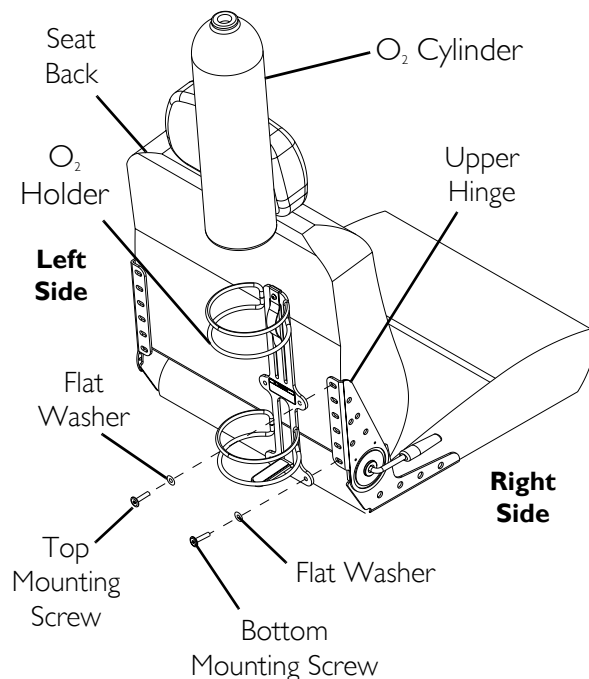

FIGURE 13.2 Installing/Removing the Oxygen Holder
NOTE: For this procedure, refer to FIGURE 13.2.
2. Align the O₂ holder mounting holes with the mounting holes in the upper hinge and seat back as shown in FIGURE 13.2.
3. Using the two (2) mounting screws and washers removed in STEP 1, secure the O₂ holder to the upper hinge and seat back. Securely tighten.